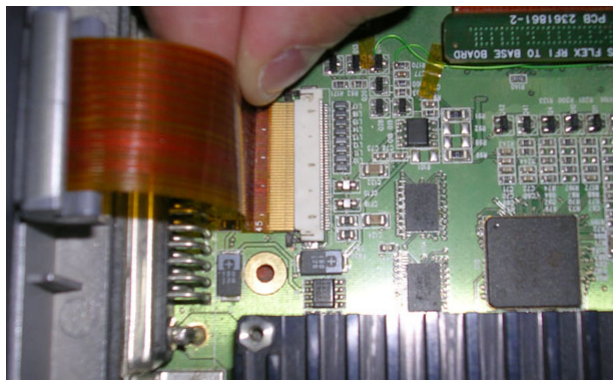

Figure 8-70 Disconnecting the LCD Flex Ribbon Cable
- 5.) Disconnect the LCD Flex ribbon cable from the BEP, as shown in Figure 8-70 below.
- 3) Use both hands to re-connect the LCD Flex ribbon cable to the BEP - refer to Figure 8-70 on page 8-61.